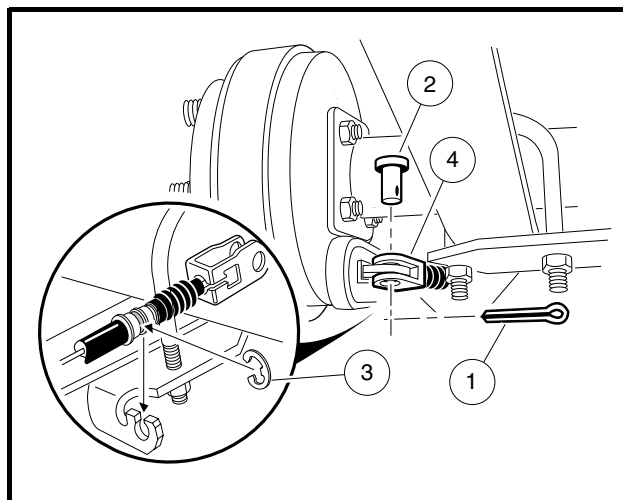

Figure 16-9 Disconnect Brakes
4. Remove the cotter pins (1), brake cable clevis pins (2), and cable retaining E-clips (3). Disconnect the brake cables (4) (**Figure 16-9, Page 16-8**).